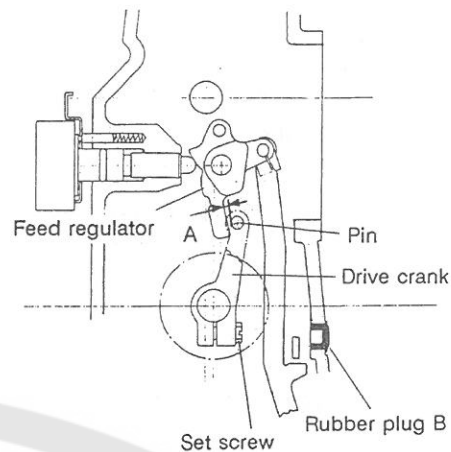

Fig. 19
4.6 Installation of Drive Crank for Touch-Back (Fig. 19)
When rotating the drive crank in the counterclockwise direction to adjust is as shown in Fig. 19, the adjustment can be done easily by removing the rubber plug C and fixing the solenoid's right-direction axis.